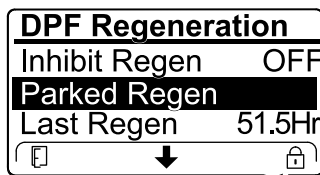

Figure 24
- If the engine computer requests a recovery regeneration or is processing a recovery regeneration and you scroll down to the PARKED REGEN option, parked regeneration locks and the lock icon (Figure 24) appears in the lower right corner of the InfoCenter.